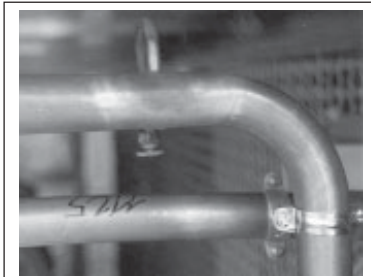

Figure 37
- Fill the hydraulic system and bleed the battery using the air vent (figure 37).